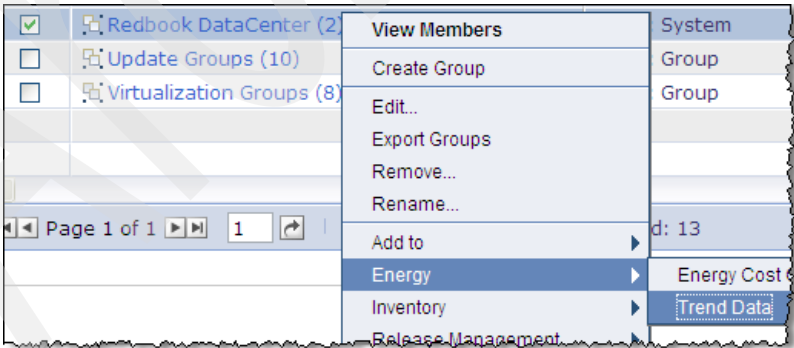

Figure 8-44 Viewing the power-trend of all systems in the Redbook DataCenter group
9. To view the power-trend data for the Redbook DataCenter group, which is data center level power monitoring, right-click **Redbook DataCenter (2)** in the Group Navigation, area and then select **Energy** → **Trend Data**, as shown in Figure 8-44.